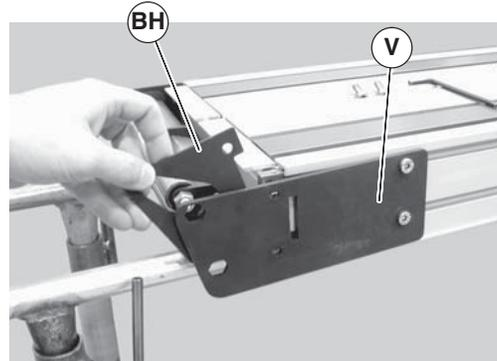

Figure 67
- Pull back the outer headplate (Figure 67, item V) and remove the inner spacer (BH).